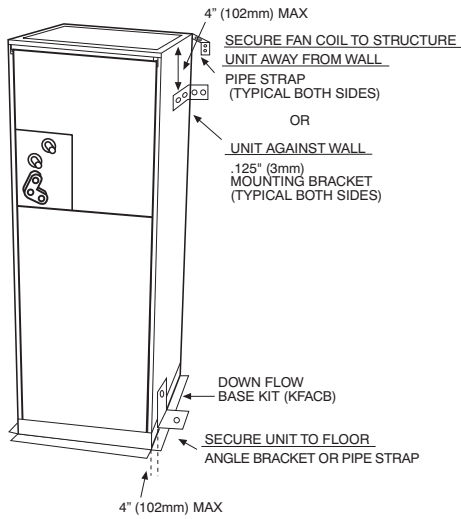

Fig. 8 - A-Coil
- b. If fan coil is against wall, secure fan coil to wall stud using 1/8" (3 mm) thick right-angle brackets. Attach brackets to fan coil using no. 10 self-tapping screws and to wall stud using 5/16-in. lag screws. (See Fig. 8.)